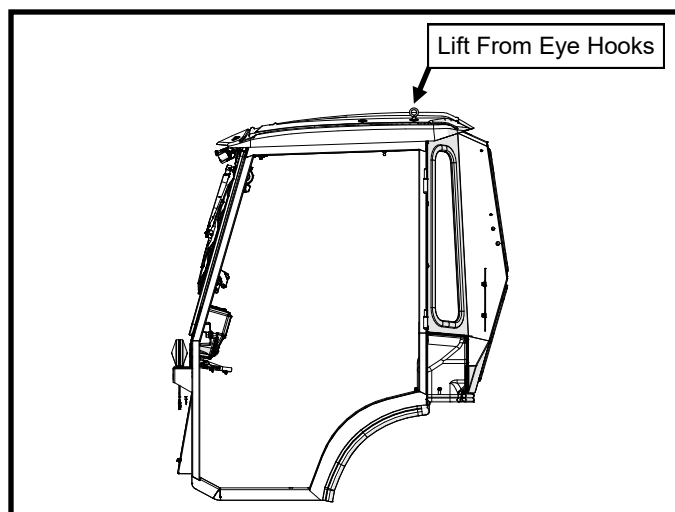

Figure 24: Remove Doors and Lift Cab
24. Secure the cab to an overhead hoist using the eye hooks in the roof as shown in figure 24. Remove the bolts securing the cab to the shipping pallet: (1) bolt in each floorboard, (2) bolts in each front leg, and (4) bolts in the rear panel.
25. Lift the cab by the eye hooks in the roof as shown in figure 24. The cab will tip slightly forward as it's lifted via the rings. Suspend the cab in the air temporarily for step 26.